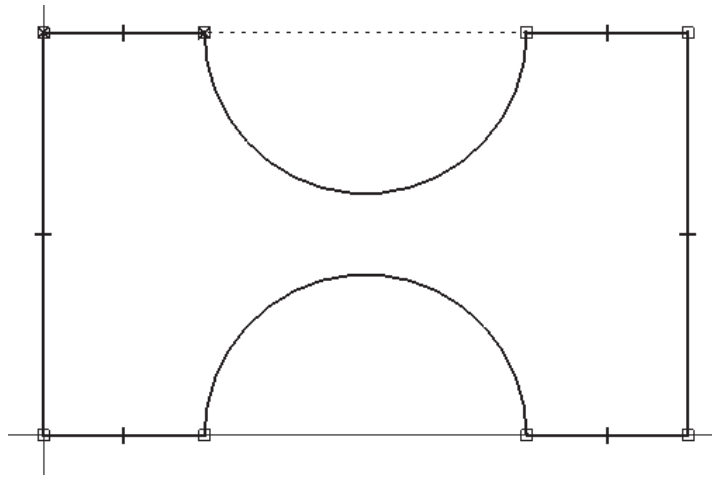

Figure 1-33 Profile for Tutorial 2
17. Click to define the endpoint of this line when the endpoint relationship handle is displayed. The final profile of the model is shown in Figure 1-33.